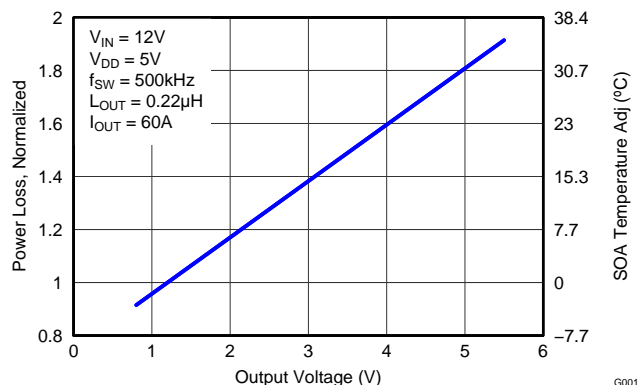

Figure 9. Normalized Power Loss vs Output Voltage
- Normalized Power Loss for output voltage ≈ 1.06 (Figure 9)
- SOA adjustment for output voltage $\approx -0.8^{\circ}\text{C}$ (Figure 9)